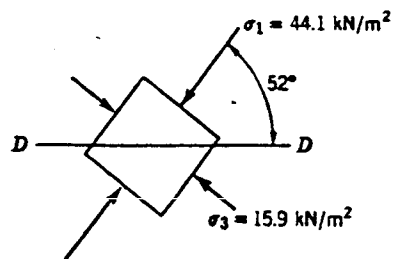

Fig. E 3.3
6. Line through O_P and σ_1 gives plane on which σ_1 acts, etc. (see Fig. E 3.3).